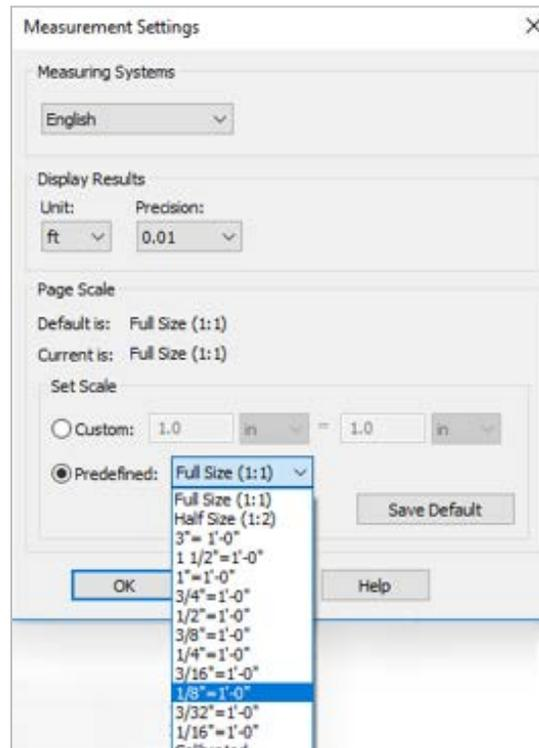

Figure 12.1 Set to Predefined Scale
- 4) In the **Measurement Settings** dialog, match the settings shown in Figure 12.1. Click **OK**.